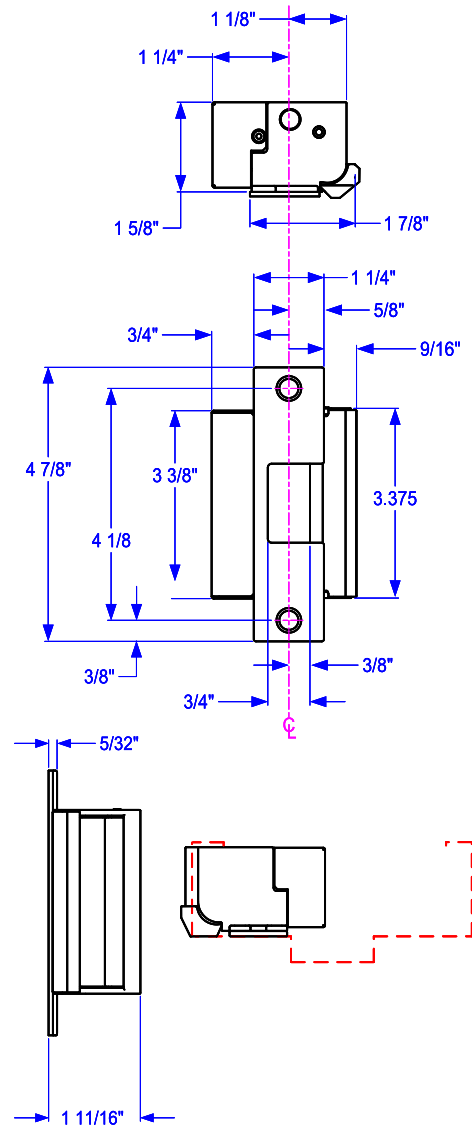

FIG. 6 FACE PLATES – All faceplates are interchangeable for application requirements
1. Verify lock compatibility, refer to **page 2** and **Fig. 6, page 4**.